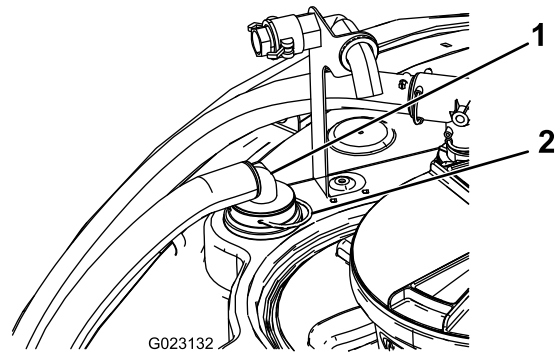

Figure 16
1. Install the hose end with the 90° fitting to the previously installed bulkhead using a retaining fork (Figure 16).